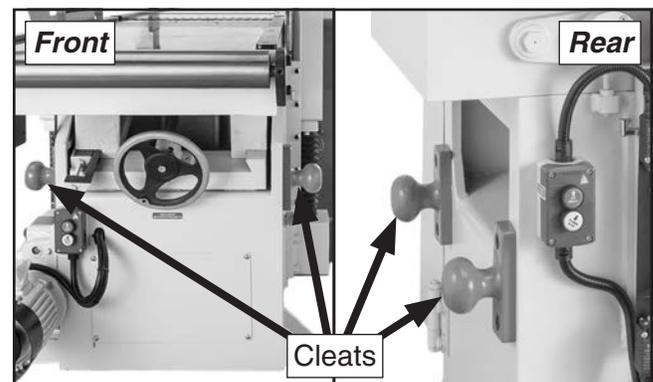

Figure 15. Location of lifting cleats.
— Secure lifting straps around (4) cleats on machine (see **Figure 15**) and attach straps to lifting equipment with heavy-duty shackles or other rigging equipment. Cleats are positioned on machine to balance weight of machine when using four lifting straps of equal length.